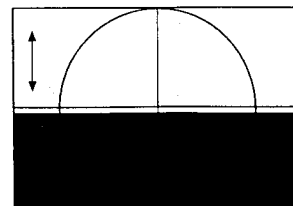

Fig. 3
- Adjust horizontal line off the cross figure to coincide with the edge of the black area in the center of C.R.T. (fig. 3).